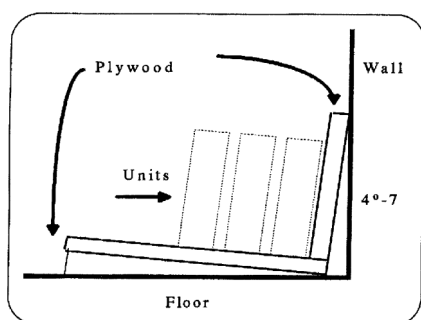

Fig 1
- Insulating Glass Units must be transported and stored so that both panes of glass are equally supported. Units should be stored vertically or stored on a 90° angle rack set at 4° -7° from the vertical – Figure 1. Units may be moved and stored on site storage trolleys similar to example in Figure 2.